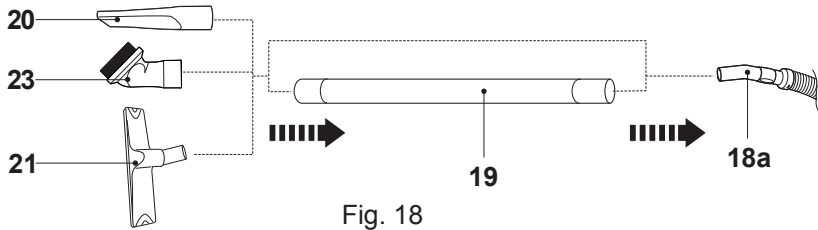

Fig. 18
- > Connect the extension tube(s) (19) and / or accessory (20, 21, 23) onto the hose handle (18a) if required (Fig. 18).